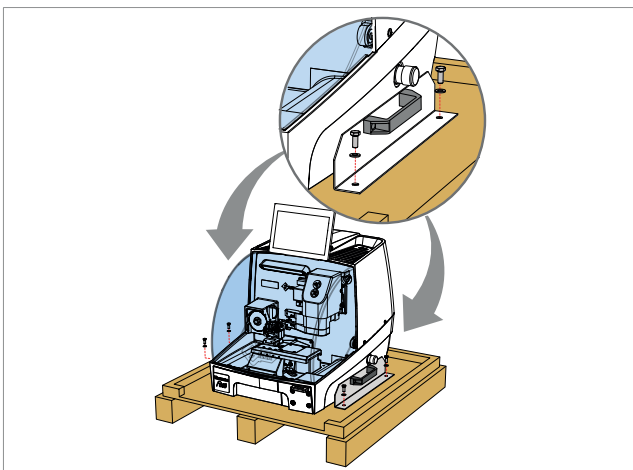

Fig. 18
- 4) Remove the screws attaching the machine-locking side brackets to the pallet (Fig. 18).